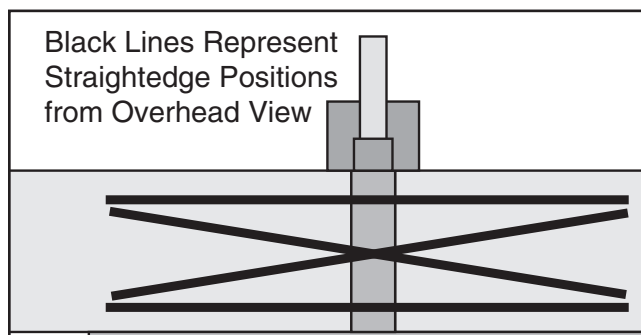

Figure 60. Straightedge positions for checking infeed/outfeed table parallelism.
11. Place straightedge in each position shown in **Figure 60**, and adjust eccentric bushings under infeed table so straightedge lies flat against both tables.